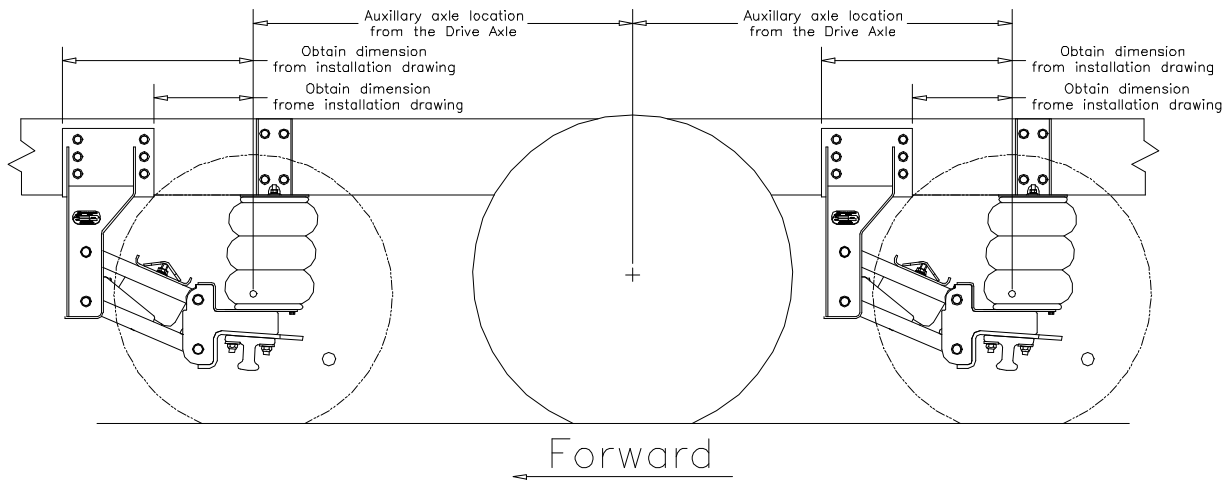

Figure 3
1. Determine the location of the auxiliary axle wheel center on the vehicle frame rail and mark this location. The location marks must be referenced from a hanger bolt or similar feature on the vehicle frame. The marks should be directly opposite each other on the frame to assure suspension squareness. Measure forward and mark a mounting line to align the suspension hangers for positioning the suspension on the vehicle frame. This is the alignment mark that will be used during installation. Refer to the suspension assembly drawing #9833 and mark the boundary areas of the auxiliary suspension mounting surfaces on the vehicle frame. (See Figure 3).